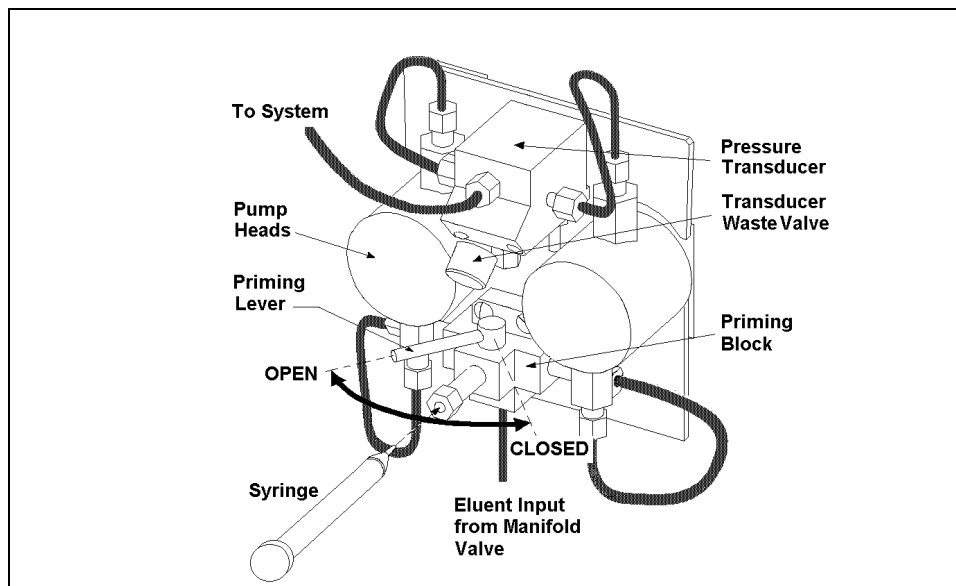

Figure B-5. Priming the Pump Heads
2. Open the pressure transducer waste valve (see Figure B-5) by turning the knob counterclockwise about two turns. When the waste valve is open, flow goes from the priming block through the pump heads and directly out to waste (bypassing the eluent out line to the column).
1. Connect a 10 mL syringe (P/N 016387) to the luer adapter on the priming block (see Figure B-5).
3. Move the lever on the priming block to the left as far as it will go (see Figure B-5). Press **Prime**.